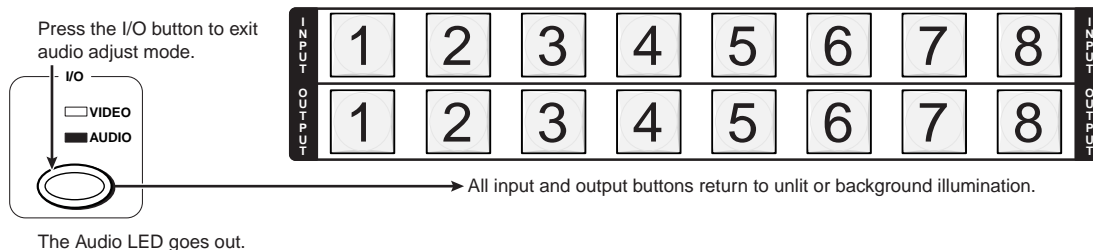

Figure 3-42 — Deselect audio mode
5. Press and release the Audio button (figure 3-42).